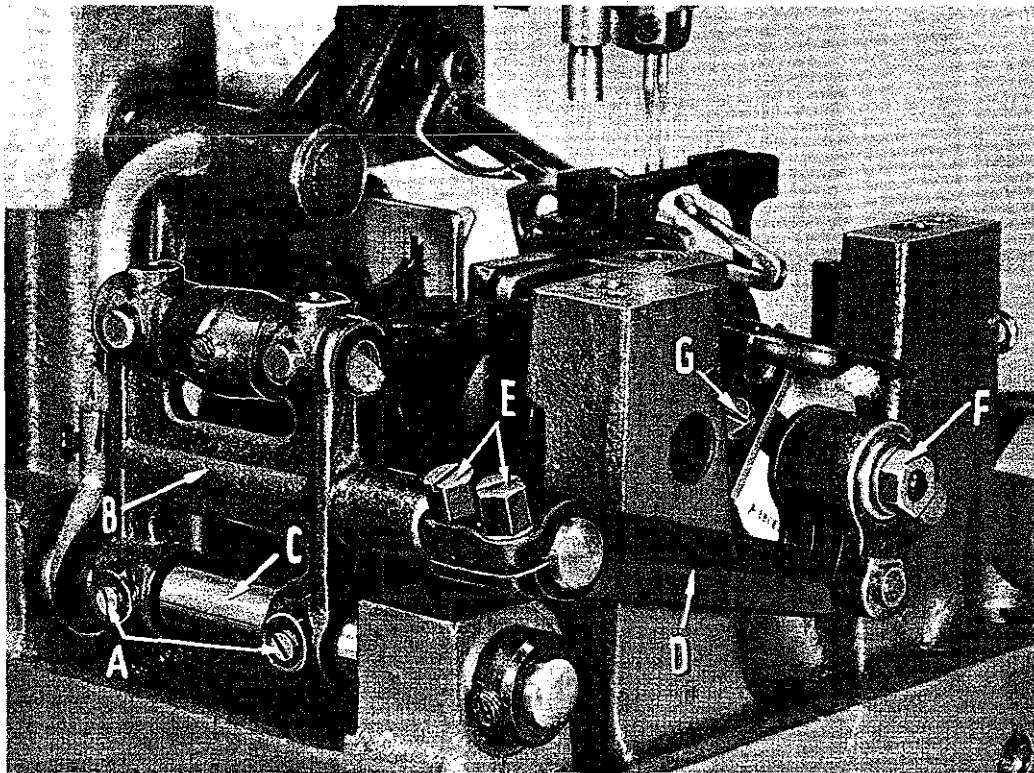

Fig. 10
Should it be necessary to move the feed dog to the left or right, loosen screws (A, Fig. 10) which hold the feed rocker (B) onto the feed rocker shaft (C), and move feed rocker to desired position and retighten screws. Make sure that the feed rocker arm (D) does not bind after making this adjustment.
Set the stitch to required length. This is accomplished by loosening the lock nut (F, Fig. 10) (it has a left hand thread) on the end of the stitch regulating stud and turning the stitch adjusting screw (G) located under the left end of the cloth plate in the head of the main shaft. Turning the screw clockwise shortens the stitch, and turning the screw counterclockwise lengthens the stitch.